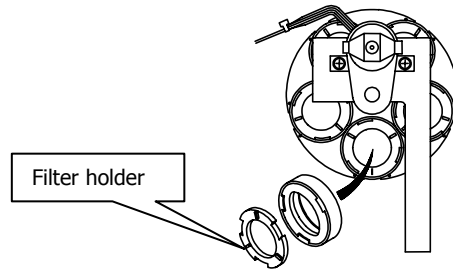

Figure 45 Installing the filter holder
7. Secure the filter to the filterwheel by clipping the holder into place (Figure 45).